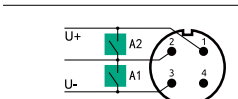

Figure 12 - Using the teach input
- To set the user range, a special input is used - the teach input (pin 2). It is necessary to alternately close the teach input (see Figure 12) and the input between the +U and -J terminals (see Figure 12).